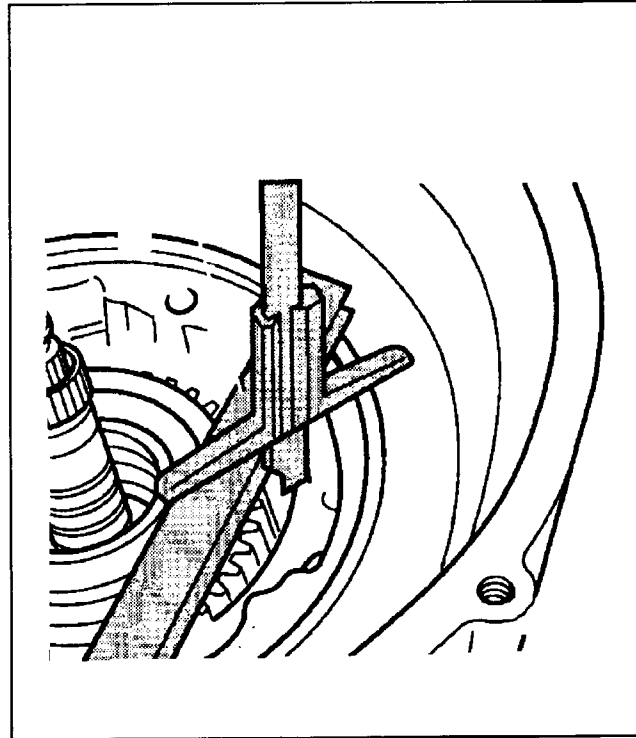

Figure 155
3. Measure with a depth gauge to pump flange on the transmission housing (See Figure 155).